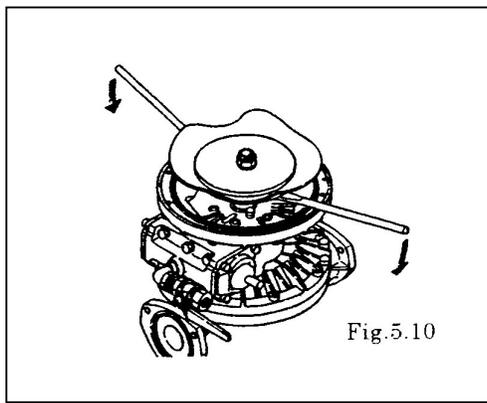

Fig. 5.10
- Grip the inside centre disk using crowbars and draw it to the opposite side, then turn the diaphragm over (exclude B□H, B□S type. [Fig.5.10, 5.11].